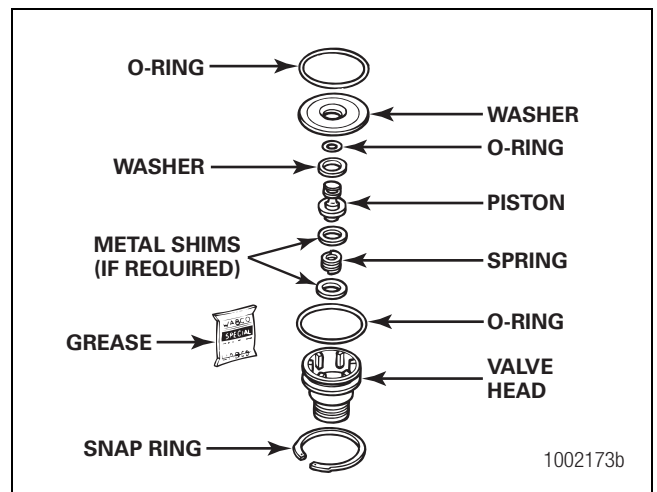

Figure 3.13
- Review Figure 3.13 to ensure you have all of the parts required to replace the purge valve.